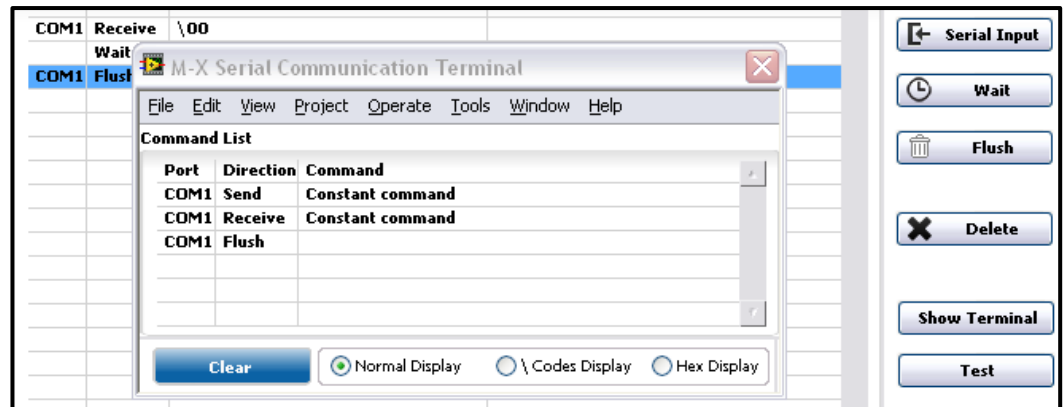

Figure 64. Serial Communication Terminal window and testing.
- To test the serial function click the Show Terminal button to bring up the Serial Communication Terminal window, where the traffic can be tracked real-time, and click the Test button (in the main panel) [Figure 64].